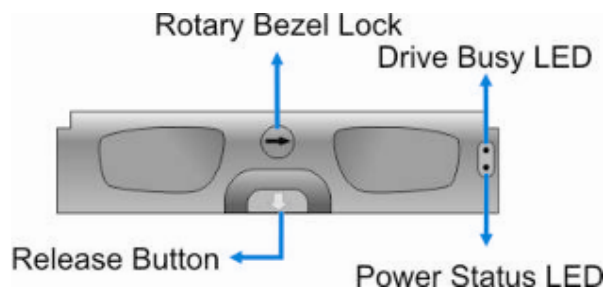

Figure 3-2: Drive Tray LEDs
Two (2) LED indicators are located on the right side of each drive tray. (See **Figure 3-2**) Refer to **Table 3-2** for the LED definitions. When notified by a drive failure message, you should check the drive tray indicators to find the correct location of the failed drive. Replacing the wrong drive can fail two members of a logical array (RAID 3/5) and thus destroy data in it.